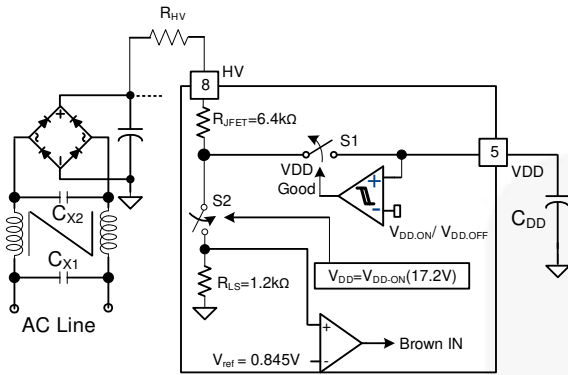
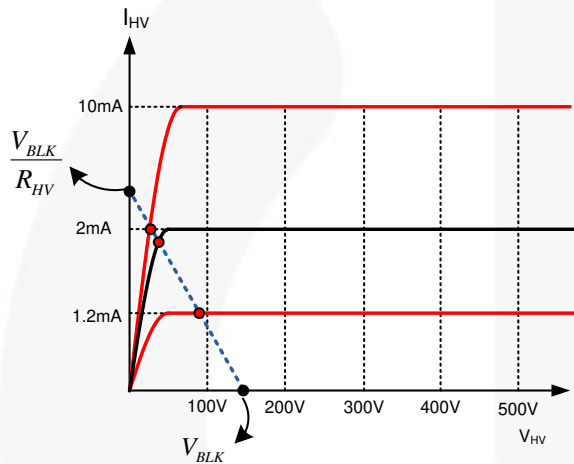

Figure 43. HV Startup Circuit
Figure 44. Characteristics of HV pin
Figure 43 shows the high-voltage (HV) startup circuit. An Internal JFET provides a high voltage current source, whose characteristics are shown in Figure 44. To improve reliability and surge immunity, it is typical to use a  $R_{HV}$  resistor between the HV pin and the bulk capacitor voltage. The actual current flowing into the HV pin at a given bulk capacitor voltage and startup resistor value is determined by the intersection point of characteristics I-V line and the load line as shown in Figure 44.
During startup, the internal startup circuit is enabled and the bulk capacitor voltage supplies the current,  $I_{HV}$ , to charge the hold-up capacitor,  $C_{VDD}$ , through  $R_{HV}$ . When the  $V_{DD}$  voltage reaches  $V_{DD\_ON}$ , the sampling circuit shown in Figure 43 is turned on for  $t_{HV\_DET}$  (100  $\mu$ s) to sample the bulk capacitor voltage. Voltage across  $R_{LS}$  is compared with reference which generates a signal to start switching. If brown-in condition is not detected within this time, switching does not start. Equation (9) can be used to program the brown-In of the system. If line voltage is lower than the programmed brown-In voltage, FAN602L goes in auto-restart mode.